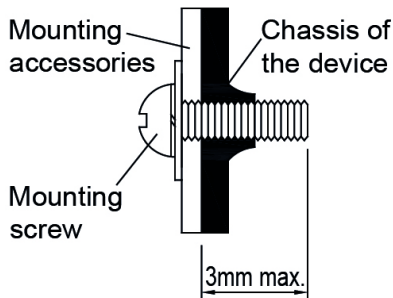

Fig. 4 Mounting Screw
- **For PMT and PML Series (Refer to Fig. 4):** Only use M3 screw  $\leq 3$  mm (0.20 inch) through the base mounting holes. This is to keep a safe distance between the screw and internal components. Recommended mounting tightening torque: 4~7 Kgf.cm.